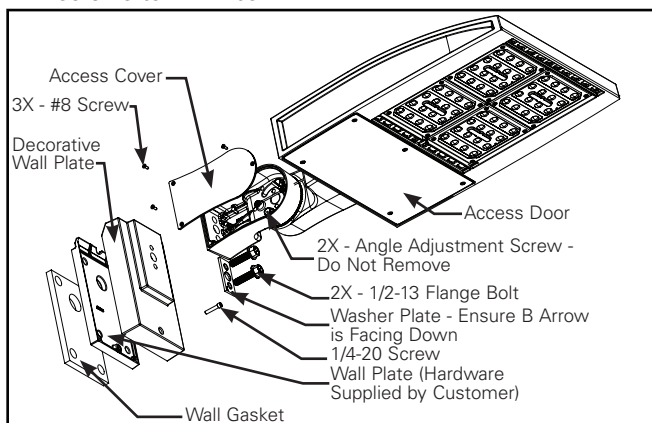

Figure 5.
Wall Mount, Adjustable (WA) (Fig. 5)